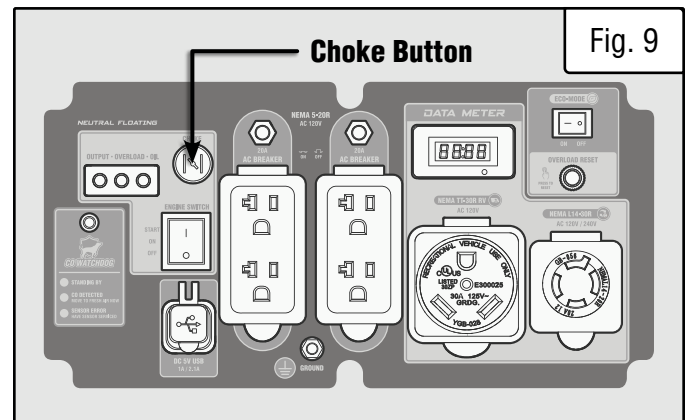

Fig. 9
2. If the engine is cold, pull the choke button out to the **CLOSE / START** position (Fig. 9). If the engine is warm, leave the choke button in the OPEN/RUN position.
7. Slowly push the choke button into the **OPEN / RUN** position (Fig. 9).
6. Slowly push the choke button into the **OPEN / RUN** position (Fig. 9).